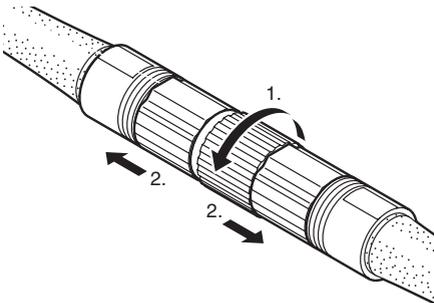

Abb. 21: Loosening the connecting cable at the extension cable or the EC motor
1. Loosen the tightening spindle connecting cable according to fig. 21 on page 170 from the extension cable or the interface at the EC motor and pull out the connecting cable.